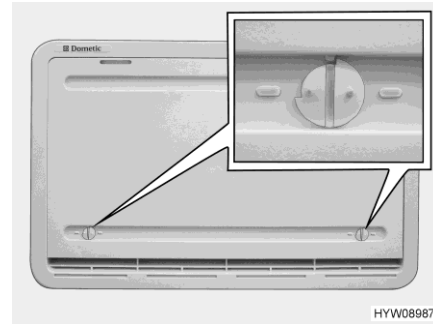

Fig. 196 Winter cover (refrigerator ventilation grill)
The winter covers (Fig. 196) protect the cooling unit against cold air. Place winter covers in front of both refrigerator ventilation grills when the external temperature falls below +10 °C (both for gas and electrical operation).
- Open both locks (Fig. 196) (groove in horizontal position).